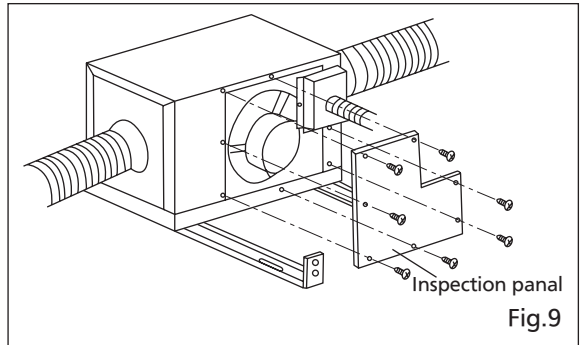

Fig.9
1. Remove inspection panel (take off the screws and pull). (Fig.9)